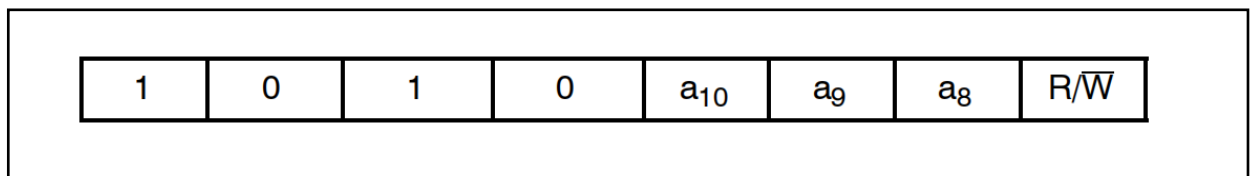

Figure 3. Slave Address Bits
Device Addressing :The Master addresses a Slave by creating a START condition and then broadcasting an 8-bit Slave address (Figure 3). The four most significant bits of the Slave address are 1010 (Ah). The next three bits are internal address bits, a₁₀, a₉, a₈. The last bit, R/W, instructs the Slave to either provide (1) or accept (0) data, i.e. it specifies a Read (1) or a Write (0) operation.